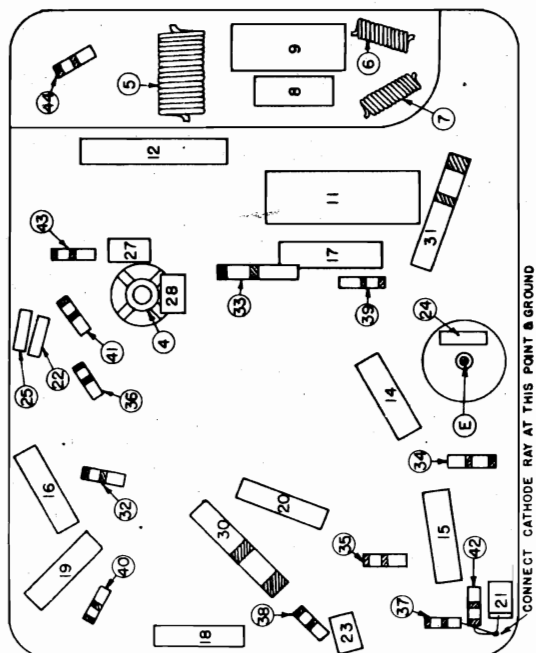

FIG. 4--PARTS LAYOUT--DASH UNIT--Bottom View
- (e) Adjust trimmers A-B-C-D (Fig. 3) and I.F. core adjustment "E" (Fig. 4) in the sequence named, until maximum output is obtained.
A Cathode Ray Oscillograph should be used to check the I.F. band spread after completing the alignment procedure. Slight adjustment of the I.F. stages may be found necessary in order to obtain a symmetrical selectivity curve. Connect Cathode Ray Oscillograph as shown in Fig. 4.